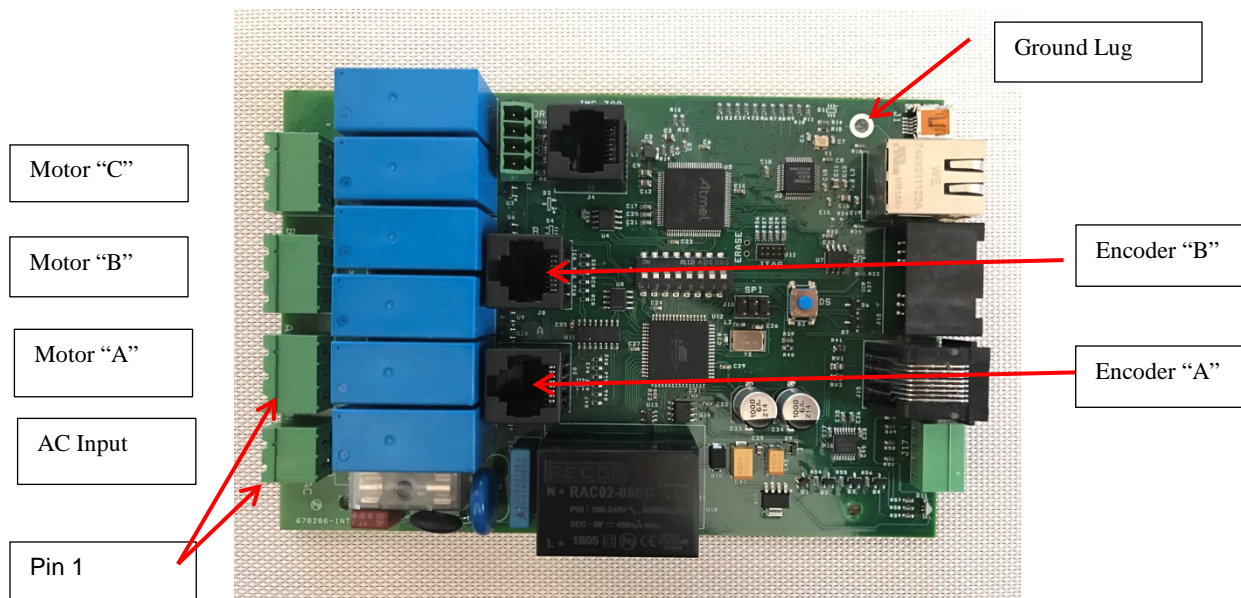

Figure 1
- c. In cases where any specific motor(s) is equipped with digital encoding circuitry (referred to as encoders), plug each Motor's associated Encoder Cables into the matching Encoder Port as shown In Figure 1 (i.e. Encoder for Motor "A" plugs into Encoder Port "A" and AC wires for Motor "A" plugs into Motor "A.").